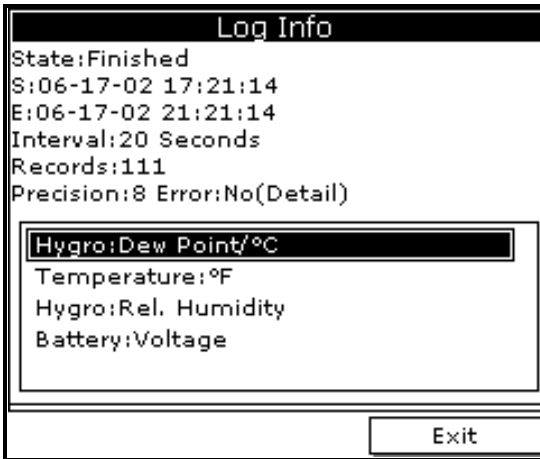

Figure 38: Log Details
4. Use the arrow key to scroll to **Details** and press [ENTER]. A screen similar to Figure 38 on page 87 appears.